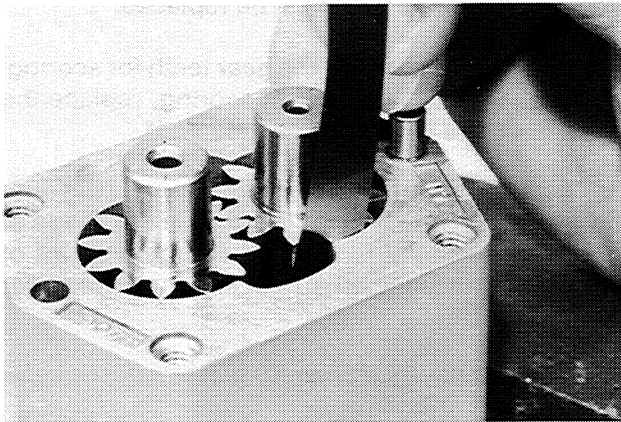

Figure 10
6. See Figure 10. Use a feeler gauge to measure the clearance between the gear teeth and the inlet side of the gear pockets. If the clearance is more than .005 inch (0.13 mm), the equipment pump must be replaced.